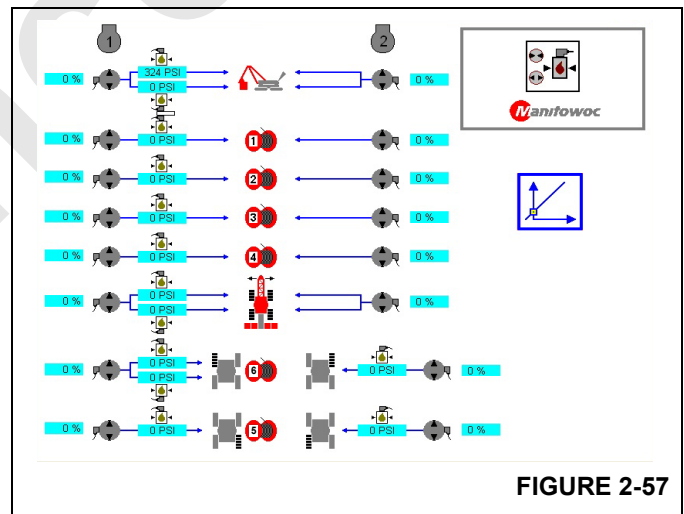

FIGURE 2-57
6. Then press  or  until a blue border appears around the icon shown (Figure 2-57).